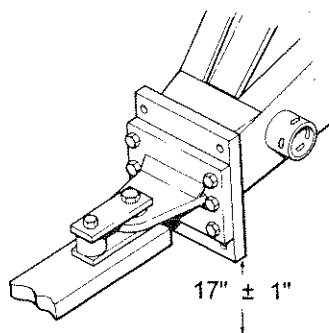

Fig. 2
3. The baler can be equipped or modified as required to work with tractors using either a 1 3/8" or 1 3/4" diameter PTO shaft. The tractor drawbar must be adjusted to provide the proper distance from the end of the tractor PTO shaft to the center of the hitch pin. Follow the SAE standards in **Fig 2** and **Table 1** for correct adjustment of the tractor drawbar.